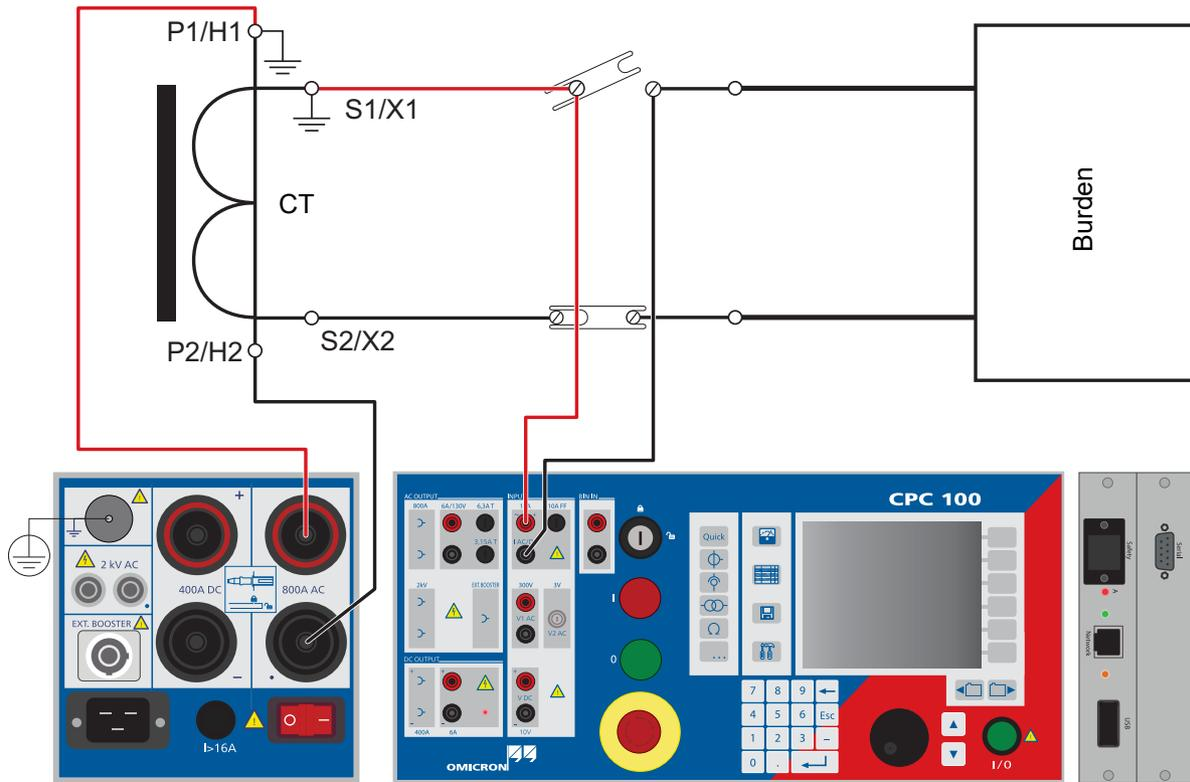

Figure 5-2: Setup of testing ratio, polarity (and burden) with injection to current input
1. by leading it directly via the 10A current input **I AC** (refer to Figure 5-2 on page 90), and let the *CPC 100* measure it.